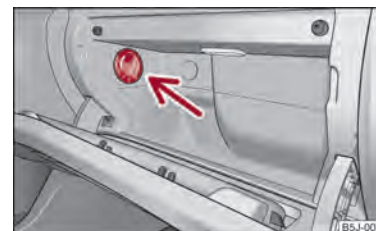

Fig. 68 Storage compartment: Using cooling system
- You can switch the cooling system on or off using the control dial ⇒ fig. 68.